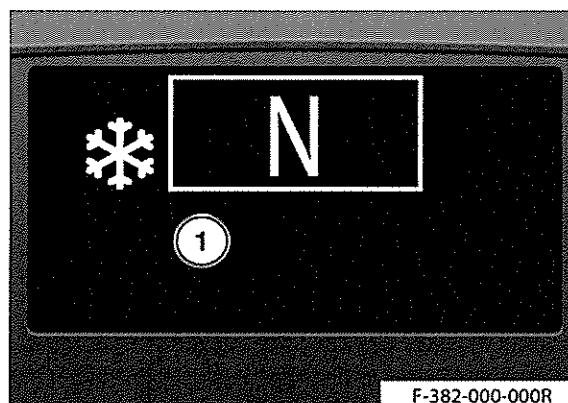

Fig 33 Black ice warning
79 Refer to Fig 33 .The black ice warning appears when the vehicle is travelling faster than 10 km/h and one of the temperature conditions is present as follows:
80 Refer to Fig 33. When the conditions for black ice are detected, the driver's display shows the black ice symbol and the text 'DANGER! BLACK ICE' (1). Refer to Fig 34. The central warning light comes on yellow and an audible warning sounds.